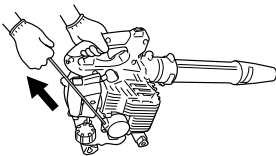

Fig. 17
4. Pull starter handle briskly, taking care to keep the handle in your grasp and not allowing it to snap back. (Fig. 17)